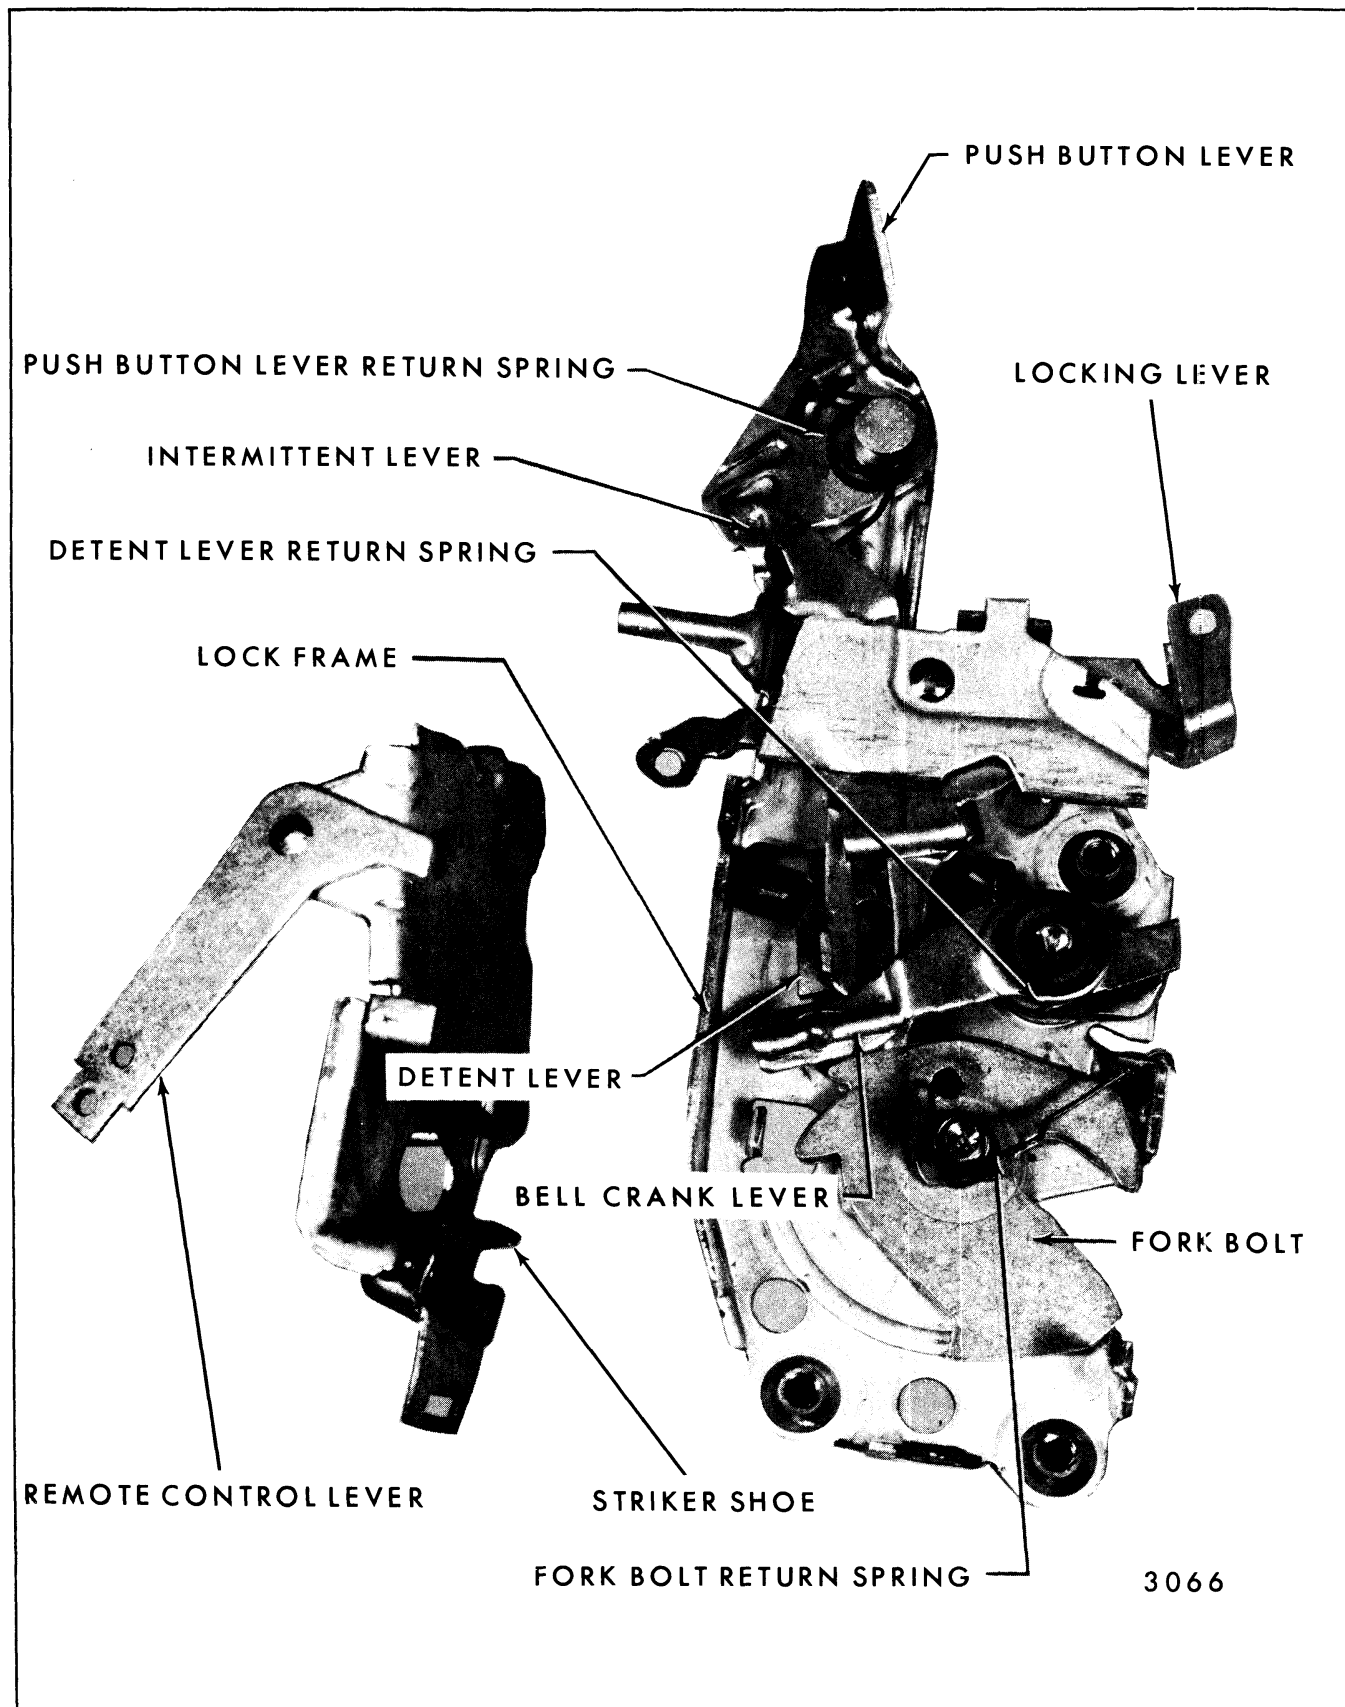

Fig. 5-69-Front Door Lock Assembly - "F and X" Styles
**WARNING:** FIGURES 5-69 AND 5-70 DEPICTS TYPICAL "F AND X" AND "A, B, C AND E" STYLES, RESPECTIVELY, FRONT DOOR LOCK ASSEMBLIES WHICH CAN BE USED FOR IDENTIFYING LOCKING PROBLEMS. DO NOT ATTEMPT REPAIRS TO CORRECT LOCK DISCREPANCIES. MAKE CORRECTIONS THROUGH REPLACEMENT OF LOCK ASSEMBLY.